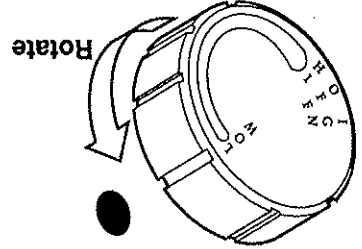

Figure 27: Rotation of Control Knob
6. Turn the gas control knob counterclockwise to the IGN position. See *Figure 27*. Push in and hold control knob for 5 seconds.
10. Turn control knob to any position between LOW and HIGH. The knob position controls the thermostat temperature. Refer to *Figure 27*.